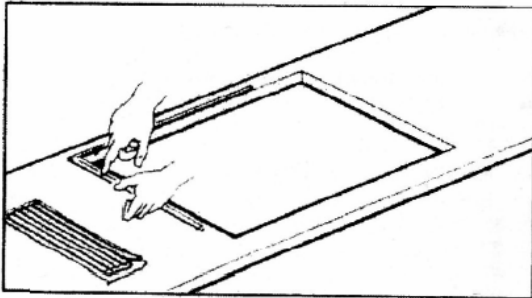

Fig.2
- 1) Stretch out the seal along the edge of the opening; take care to overlap the joining points. (fig.2).